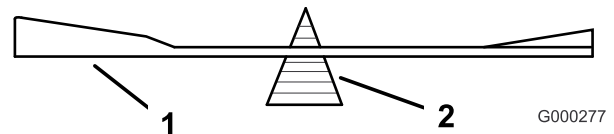
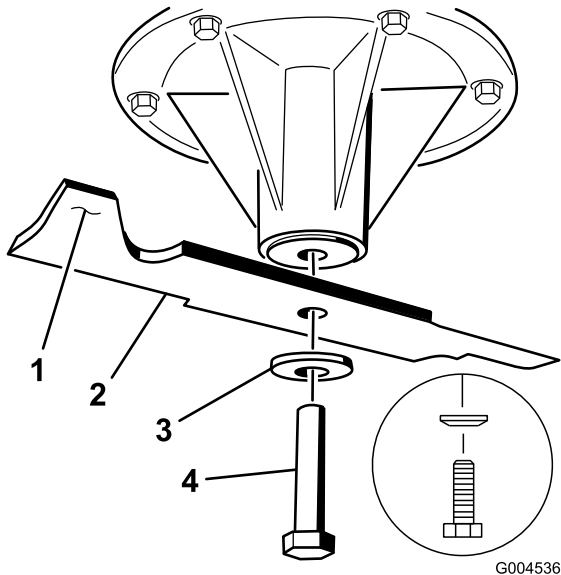

Figure 89
Figure 90
2. Remove the blade bolt, spring disk and blade from the spindle shaft (Figure 90).
2. Check the balance of the blade by putting it on a blade balancer (Figure 89). If the blade stays in a horizontal position, the blade is balanced and can be used. If the blade is not balanced, file some metal off the end of the sail area only (Figure 90). Repeat this procedure until the blade is balanced.
1. Install the blade onto the spindle shaft (Figure 90).
2. Install the curved washer and blade bolt. The curved washer cone must be installed toward the bolt head (Figure 90). Torque the blade bolt to 85-110 ft-lb (115-150 N-m).